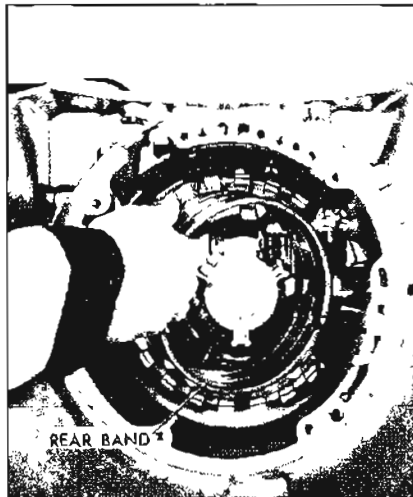

Figure 5-692
6. Install the rear band assembly so that the two lugs index with the two anchor pins. See Figure 5-692.